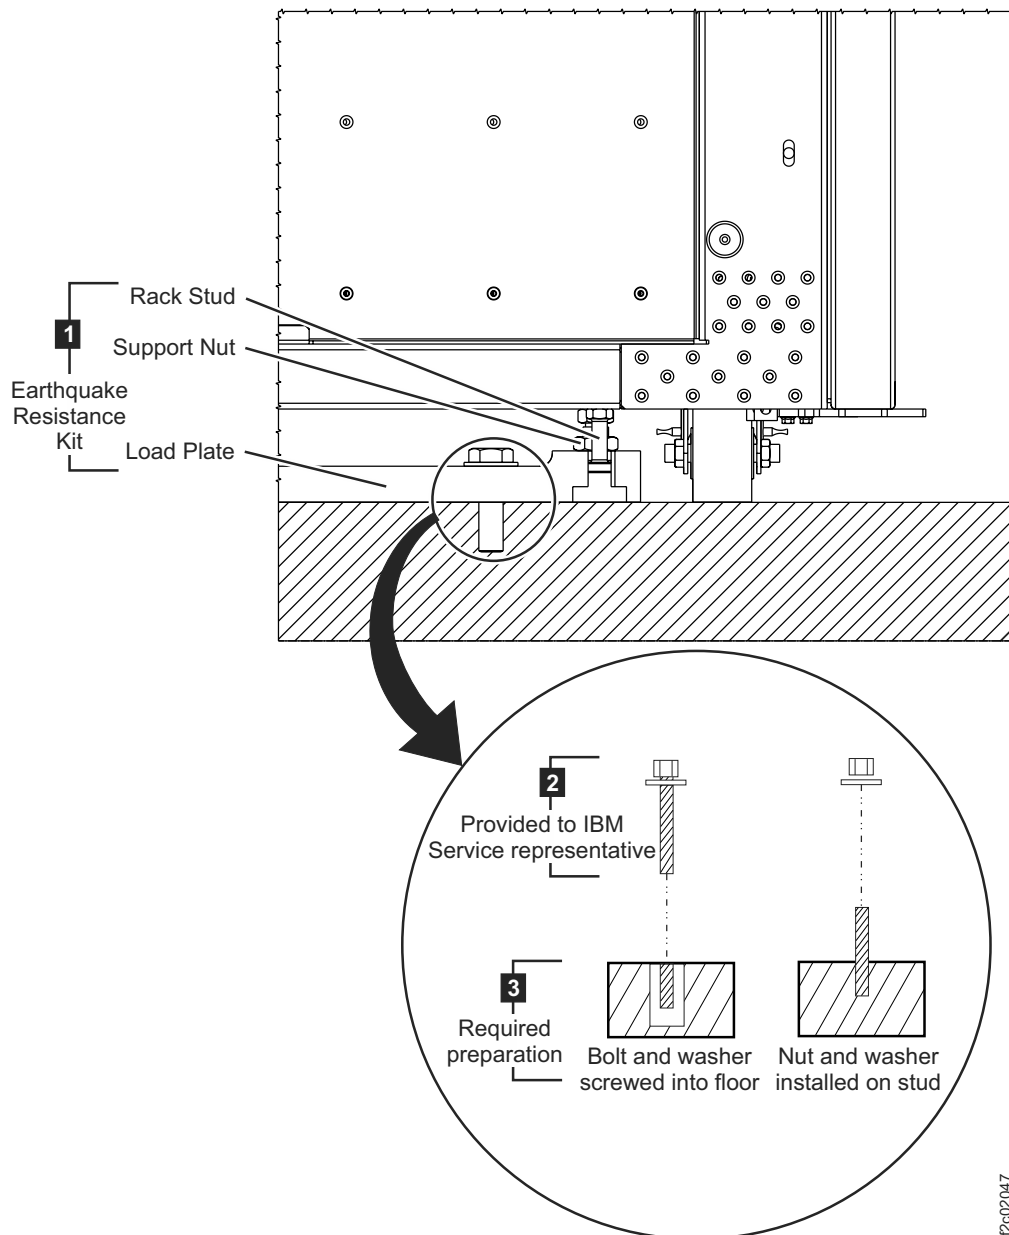

Figure 25. Earthquake resistance kit installed on a nonraised floor.
Figure 25 provides an illustration of the earthquake resistance kit (**1**) after the IBM service representative installs it on the nonraised floor.
Before the IBM service representative installs the kit, you must prepare the area that is shown as **2** in Figure 25. This figure shows two of the most common fasteners that you can use.
Figure 25 on page 160 illustrates the fastener sets.
- When the IBM service representative arrives to install the earthquake resistance kit, provide the other fastener parts (2) in Figure 25 on page 160 so that the representative can use these parts secure the load plates onto the floor.